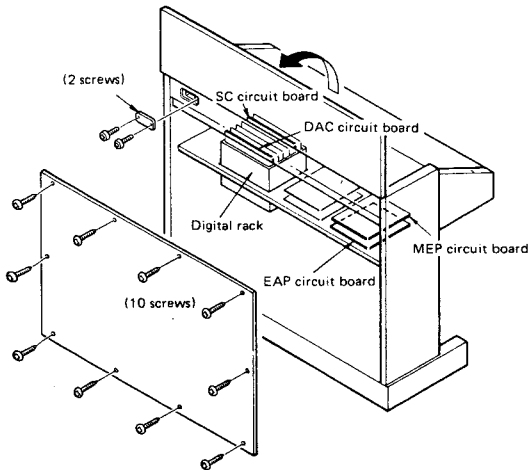
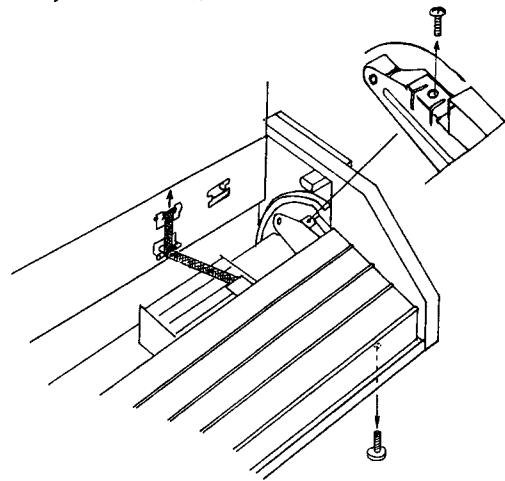

Fig. 1
Fig. 2
2. Remove the metal plate used to cover the opening on the back of the Electone provided for this accessory (2 screws). Retain these screws as they will be used in step #8 (see figure 1).
3. Remove top board retaining screws and open the top board. FX-10, FX-20 have two (2) screws in front.
4. Disconnect roll-top assembly. The elastic strap shock absorbers retaining pins must be removed from their spring clip retainers (see figure 2, No special tools are necessary).
6. Remove control panel retaining screws (4), (see figure 2).